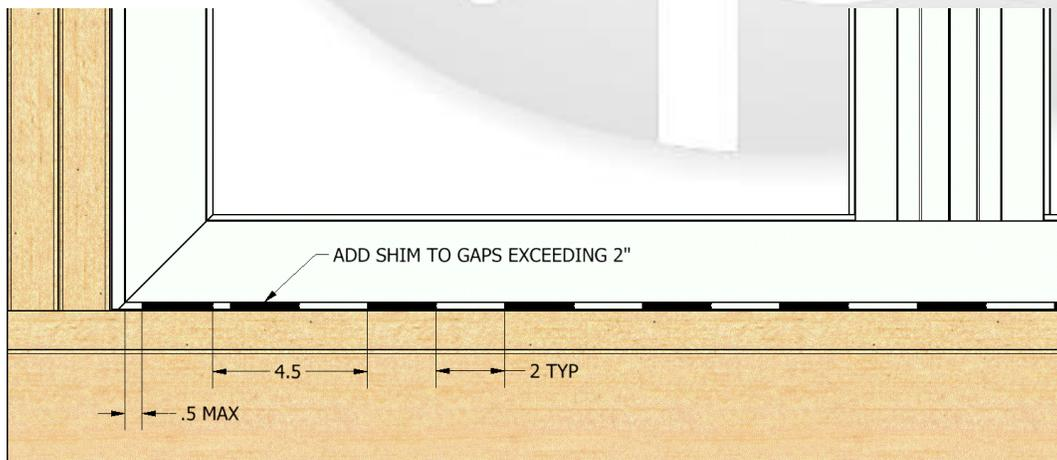

Figure 4 Sill View
- A) Sill shimming should only be used when the water proofing details require it or the sill is uneven or not level within 1/16". Fully supported sills without shims are preferred. However if you choose to use shims, we require the sill to be fully supported with no gaps exceeding two inches and shims within 1/2" from any welded corners. (See Figure 4)